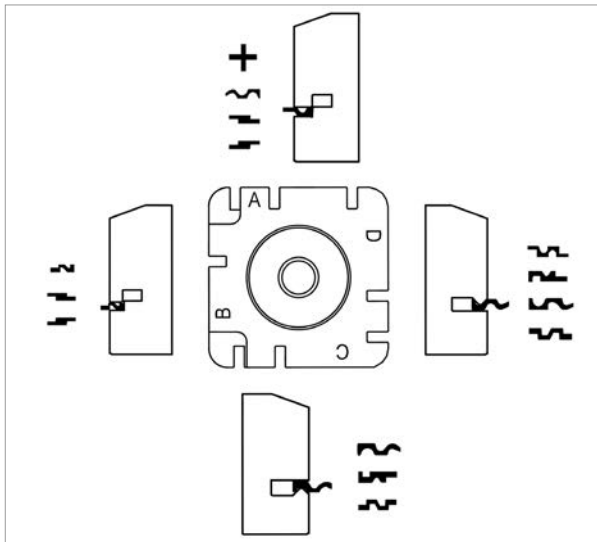
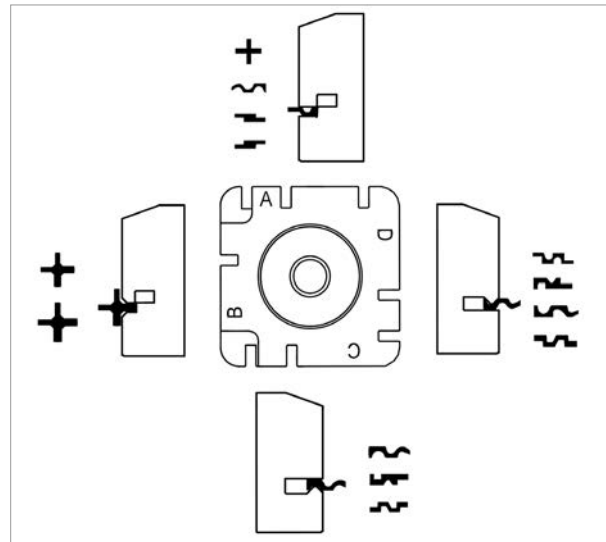

Fig. 20 - 230V version
Fig. 21 - 120V version
- **Side A** of the clamp: for keys to be fitted on their backs, keys with double cuts without groove and cruciform keys (Fig. 20 - Fig. 21);
- **Side B** of the clamp: for keys placed on their backs and having cuts with a depth of less than 3,9 mm (Fig. 20 - Fig. 21);
- **Side C and D** of the clamp: for keys to be cut on both sides and locked on the groove (Fig. 20 - Fig. 21).